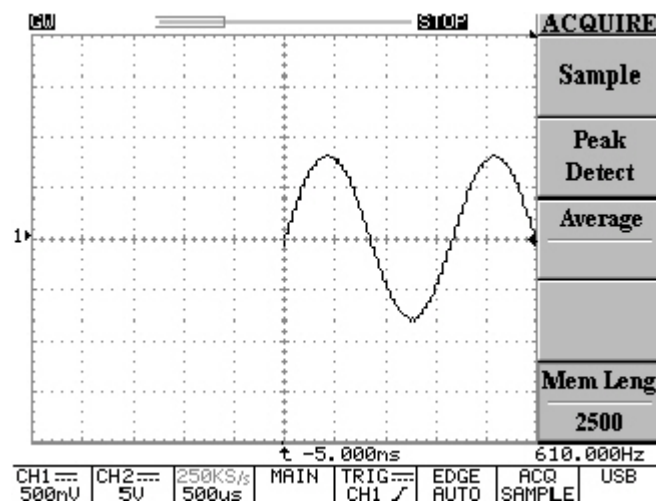

Figure 5-10: Decreasing “delay trigger indicator” shifts the waveform to the right
(1): When positive polarity selected, the trigger will take place on the high to low transition of the pulse if the compare condition is match. See figure 5-10.